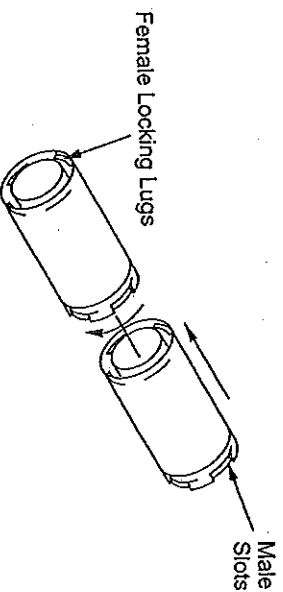

Figure 8 - Vent Pipe Connections
**Twist-Lock Procedure:** The female ends of the pipes have locking lugs (indentations). These lugs will slide straight into matching slots on the male ends of adjacent pipes. Push pipe sections together and twist one section clockwise approximately one-quarter turn until the sections are fully locked (see Figure 8). *Note:* Horizontal runs of vent must be supported every three feet. Use wall straps for this purpose.
2. Assemble the desired lengths of pipe and elbows necessary to reach from the fireplace flue up through the firestop. Be sure all pipe and elbow connections are fully twist-locked (see Figure 8, page 8).